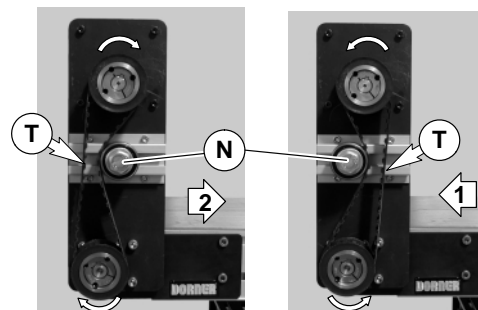

Figure 8
- Depending on conveyor belt travel (direction 1 or 2), locate timing belt tensioner (N of Figure 8) as shown. Tension timing belt to obtain 1/8" (3 mm) deflection for 6 lb (3 Kg) of force at timing belt mid-point (T). Tighten tensioner screw to 110 in-lb (12 Nm).
3. Depending on conveyor belt travel (direction 1 or 2), locate timing belt tensioner (N of Figure 8) as shown. Tension timing belt to obtain 1/8" (3 mm) deflection for 6 lb (3 Kg) of force at timing belt mid-point (T). Tighten tensioner screw to 110 in-lb (12 Nm).
5. Depending on conveyor belt travel (direction 1 or 2), locate timing belt tensioner (N of Figure 8) as shown. Tension timing belt to obtain 1/8" (3 mm) deflection for 6 lb (3 Kg) of force at timing belt mid-point (T). Tighten tensioner screw to 110 in-lb (12 Nm).